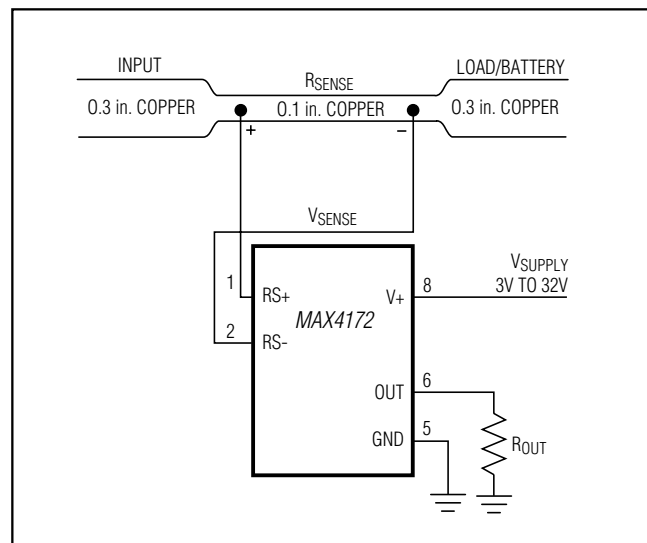

Figure 2. MAX4172 Connections Showing Use of PC Board
- Cost:** If the cost of R_{SENSE} is an issue, you might want to use an alternative solution, as shown in Figure 2. This solution uses the PCB traces to create a sense resistor. Because of the inaccuracies of the copper resistor, the full-scale current value must be adjusted with a potentiometer. Also, copper's resistance temperature coefficient is fairly high (approximately 0.4%/°C).
In Figure 2, assume that the load current to be measured is 10A, and that you have determined a 0.3-inch-wide, 2-ounce copper to be appropriate. The resistivity of 0.1-inch-wide, 2-ounce (70 μ m thickness) copper is 30m Ω /ft. For 10A, you might want $R_{SENSE} = 5m\Omega$ for a 50mV drop at full scale. This resistor requires about 2 inches of 0.1-inch-wide copper trace.